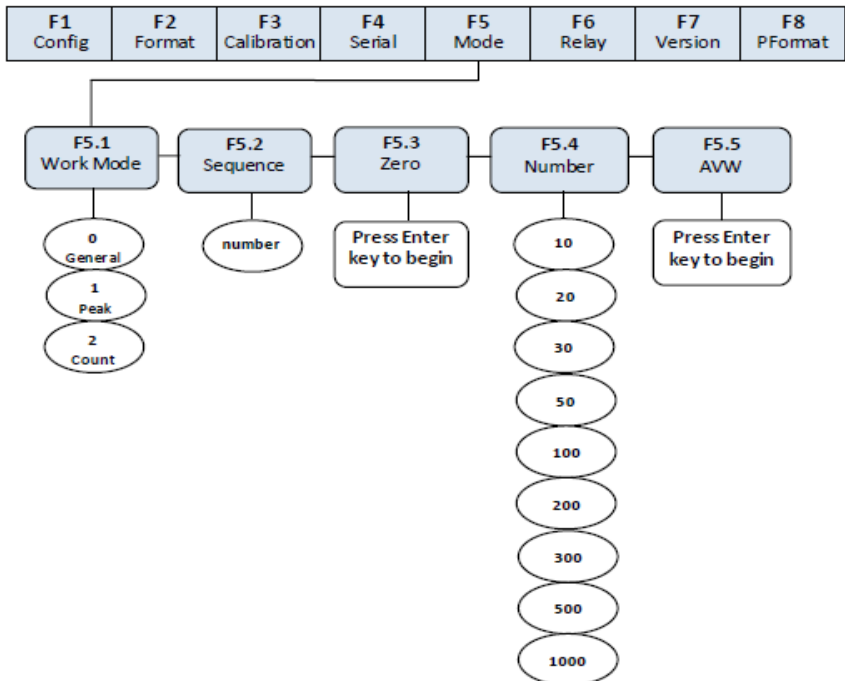

Fig. 11.1 Count Items Average Weight Setup Menu
- (1) Turn on the K1, SW2, or J1 switch to set indicator to the Configuration mode (display shows "F1").
- (2) Press  until display shows "F5" (see Fig 11.1). Press  and the display will show "F5.1". Press  then press  until F5.1 = 2. Next press  to save the value. Once the value is saved, "F5.2" is displayed.